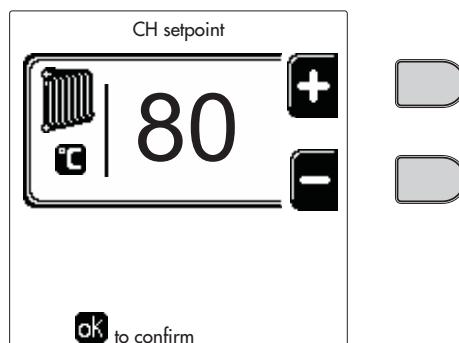
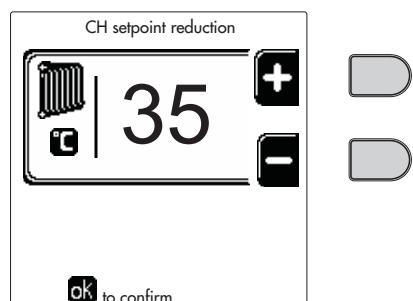
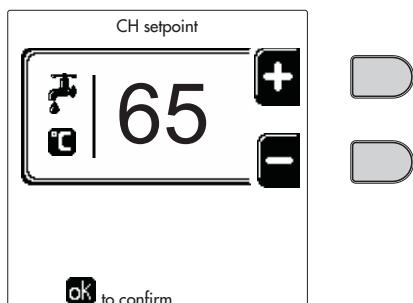
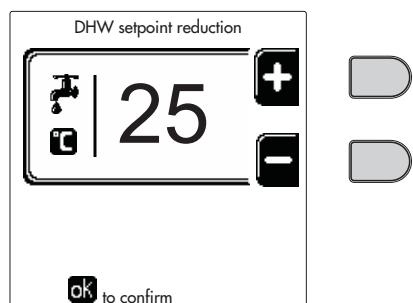

fig. 12
fig. 13
fig. 14
fig. 15
- **ON**. In case of a Heating/DHW demand, the boiler works at the set Heating/DHW (fig. 12/fig. 14) Adjustment Temperature.
- **OFF**: In case of a Heating/DHW demand, the boiler works at the Reduced Adjustment Temperature. The Reduced temperature is obtained by subtracting the Reduction Adjustment Temperature value (fig. 13/fig. 15) from the set Heating/DHW Adjustment Temperature (fig. 12/fig. 14).